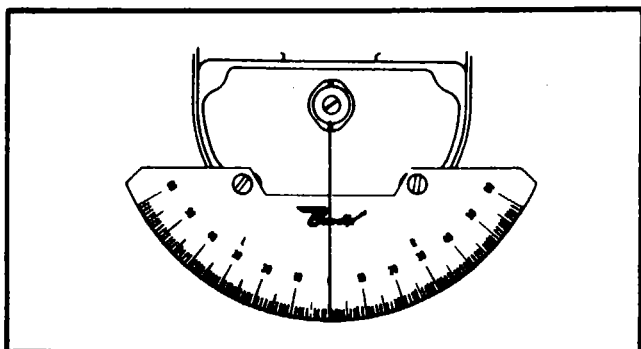

Figure 11-14. Template and Pointer Attached
- d. Attach timing template to breaker compartment as shown in figure 11-14, using 8-32 screws 1/4 inch long.